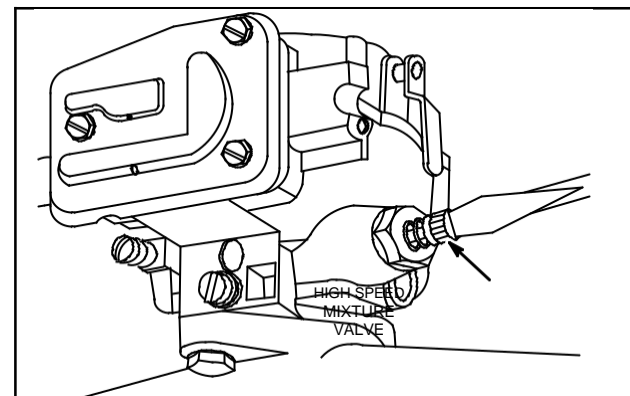

Fig. 51 – Adjust High Speed Mixture
4. Turn mixture valve to midpoint between rich and lean, Fig. 51.